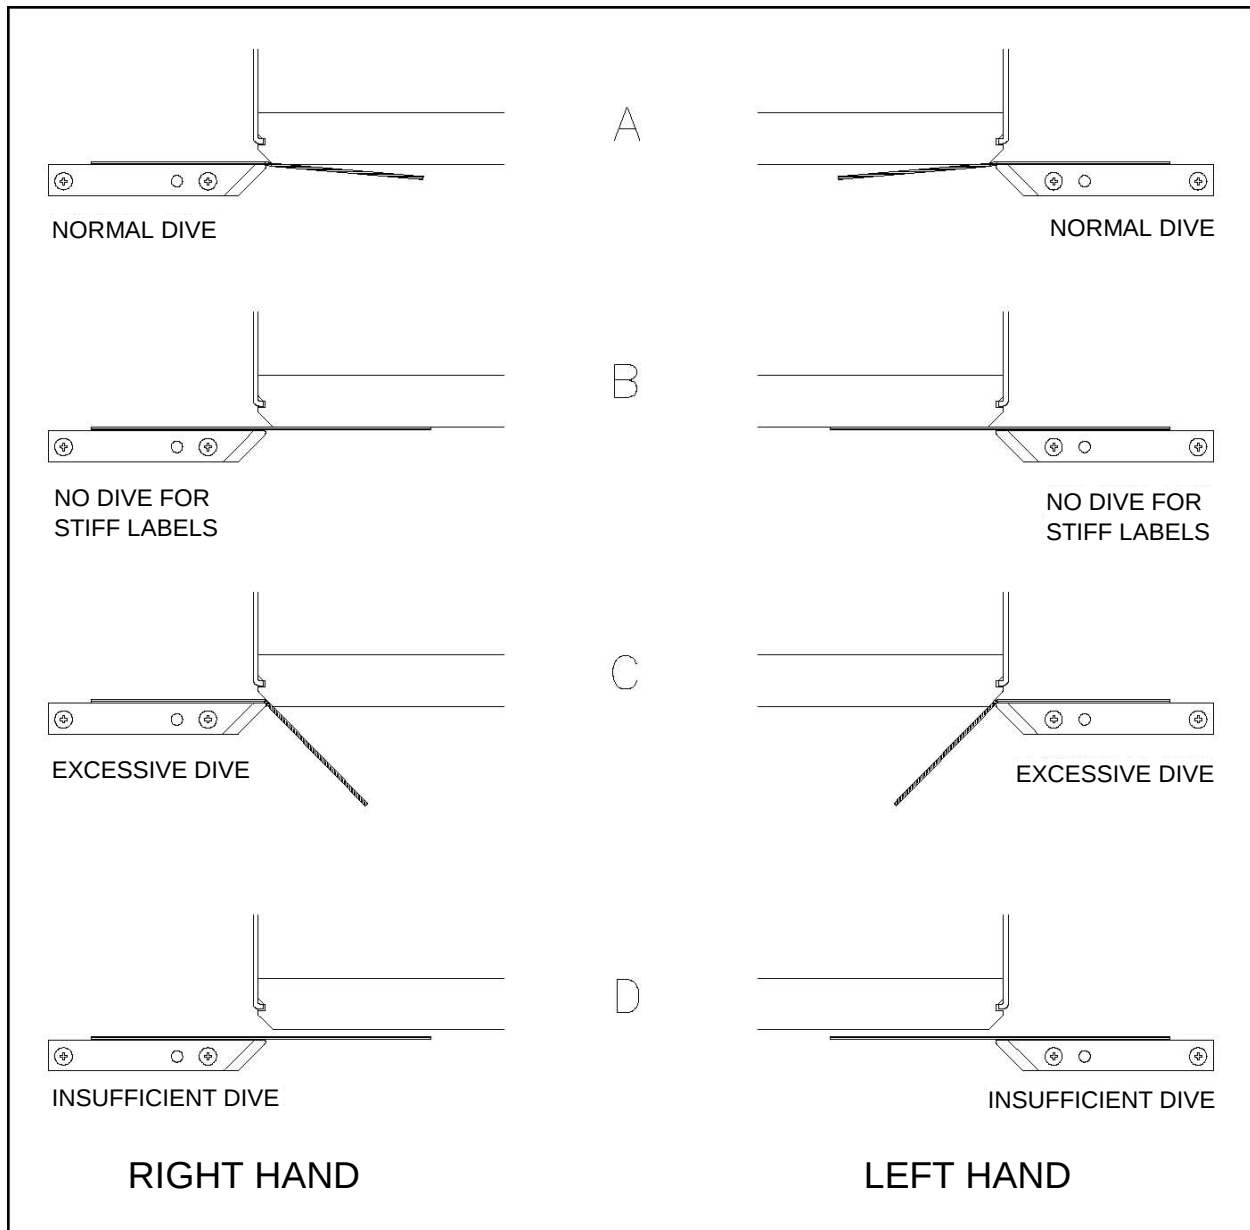

Figure 39 Peeler Bar Adjustment
2. Rotate the rewind mandrel to dispense a label halfway onto the vacuum grid. A typical paper label should be at a 5 to 10 degree dive angle to the vacuum grid (Figure 39 A); a stiff or metallic label should be flat against the vacuum grid. (Figure 39 B).
Insufficient dive will cause the label to become air borne as it dispenses which results in inaccurate placement on the vacuum grid and/or label on the air assist tube. (Figure 39 D).
Excessive dive will also cause inaccurate placement of the label on the vacuum grid. (Figure 39 C). If the label is at the correct dive angle, skip this step and go on to the Initial Air Pressure Settings Section. If the dive angle needs correcting, go on to step 3.
Refer to Figure 39 Peeler Bar Adjustment.